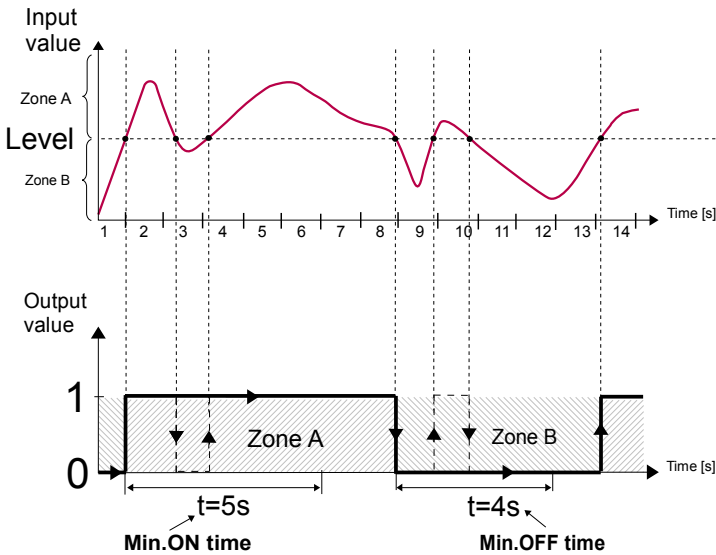

Fig. 7.89. Principle of relay output operation for sample timing settings:
- high state the low state will occur after this time) - see **Fig. 7.89**,
- **Minimum OFF time** - the minimum duration of a low state (if the output switches to low state the high state will occur after this time) - see **Fig. 7.89**,